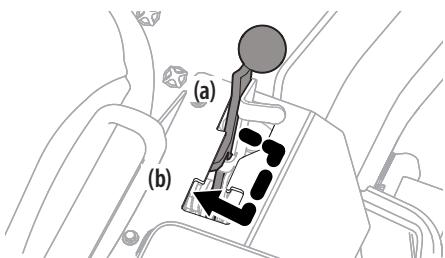

Figure 19
- Engage the parking brake by placing drive control pedals in neutral, pushing the park brake lever to the right out of the "off" position (a) and pulling the lever back until it locks into the "on" position (b). See Figure 19.